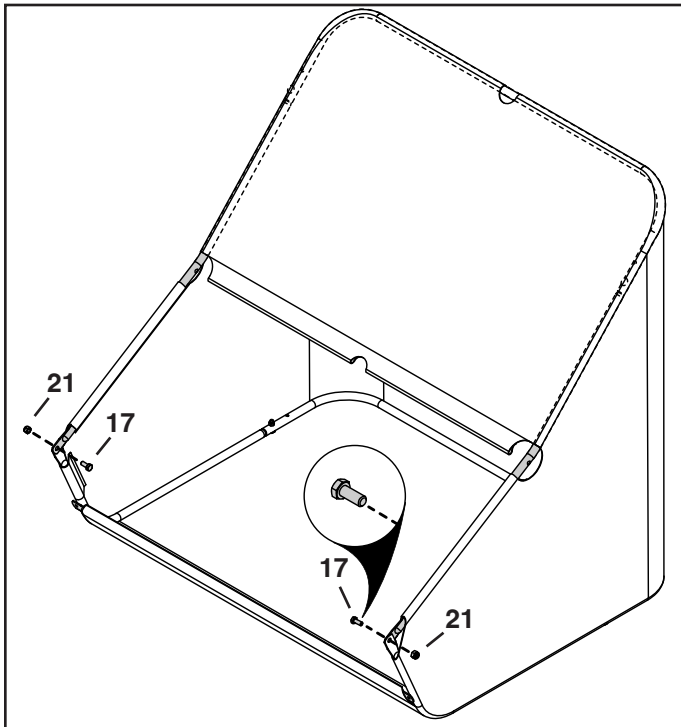

FIGURE 13
STEP 13: (SEE FIGURE 13)
1. Secure the top and bottom hopper tubes together using two 5/16" x 3/4" hex bolts (17) on inside and two 5/16" nylock nuts (21) outside.